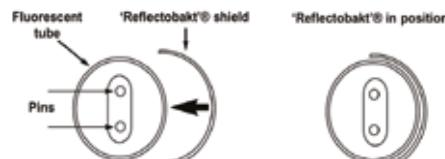

Fig 1
**FITTING THE REFLECTOBAKT® SLEEVE** Take the tube and line up the two leading edges of the Reflectobakt® sleeve with the pairs of pins at either end of the tube - see Fig 1. Ensure that the sleeve is fitted centrally to the tube so that the small gap between the end of the sleeve and the metal end of the tube is the same at both ends. Carefully push the sleeve so it is in contact along the length of the tube surface. It should grip and stay in position. Re-fit the tube into the unit; the sleeve should be positioned at the back of the tube, keeping the light off the sticky board. At all times, handle the shield with care, as the dimensions are critical in order that it fits the tube properly.